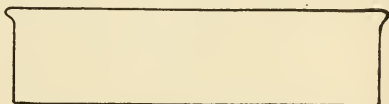

FIG. 153.—A Composing-rule.
**A Composing-rule**, similar to Fig. 153, should be cut out